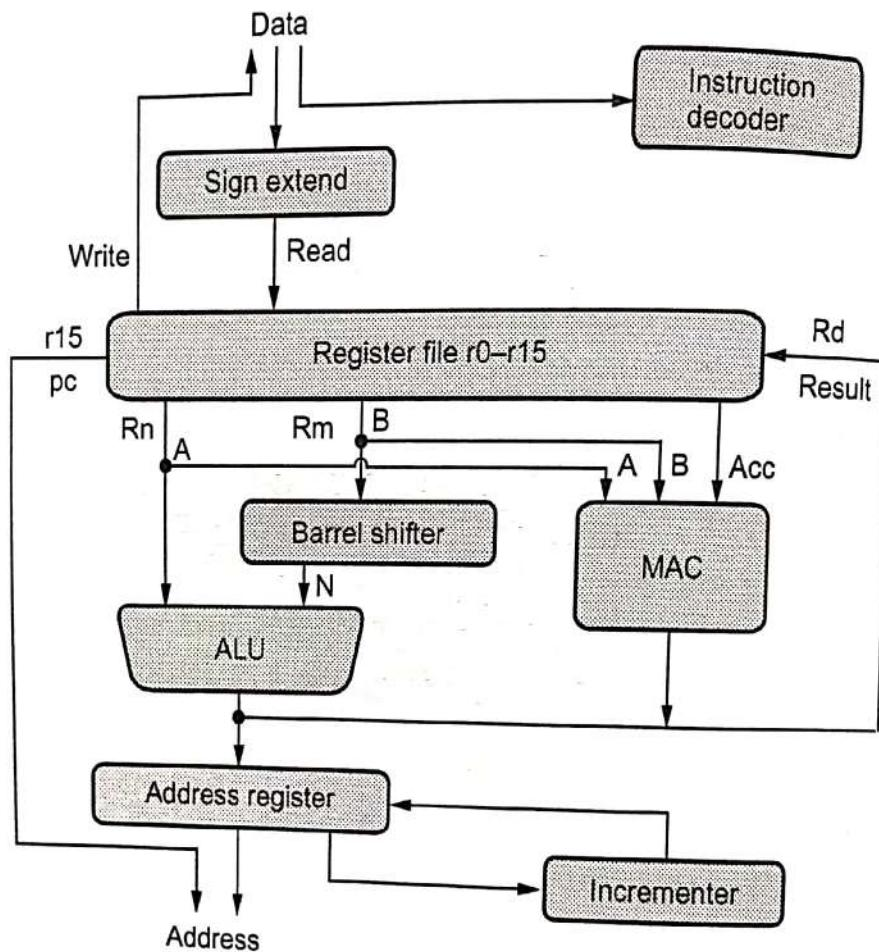

Fig. 2.5.5 : Data flow model of ARM core
- Fig. 2.5.5 shows data flow model of ARM core. Instruction decoder translates instructions before they are executed.